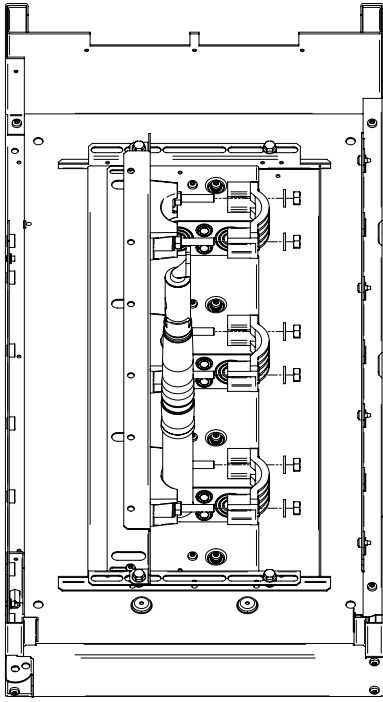

Figure 97. Installing the loose parts of the cable clamps
a) Re-install the loose parts as shown in Figure 97.